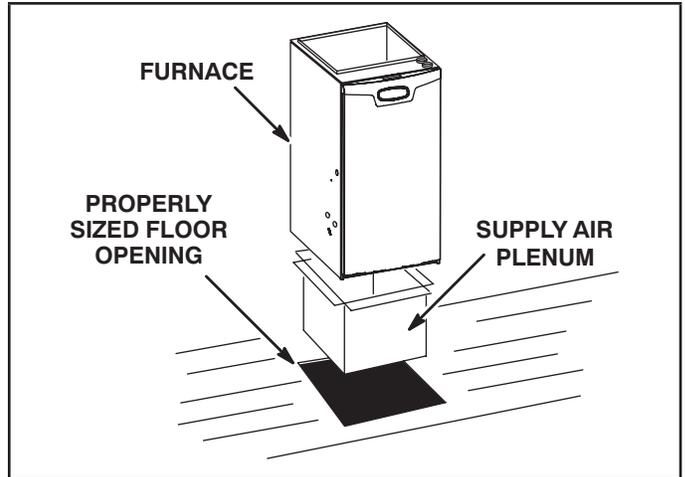

FIGURE 14
**Installation on Non-Combustible Flooring Figure 14**